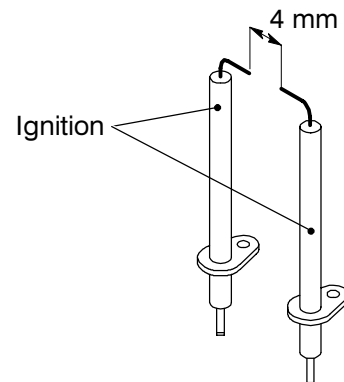

Fig. 77
- 2 Check for the correct distance between the metallic edges of the ignition electrodes (see Fig. 77).